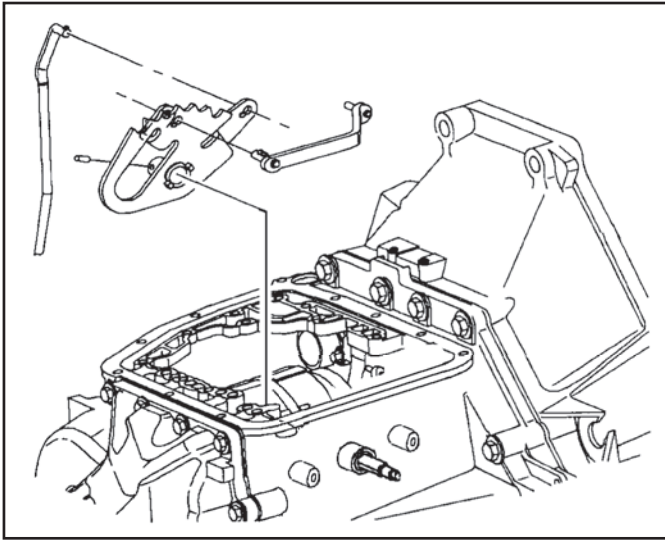

Figure 212
44. Install the manual valve link to the manual detent lever. It may be easier to start the roll pin in the detent lever before hand (See Figure 212).
45. Attach the park pawl actuator rod to the manual detent lever and install it on the manual detent shaft lever (See Figure 212).
46. Once the manual shaft is installed into the detent lever, line up the roll pin hole and drive in the roll pin until it is flush (See Figure 212).